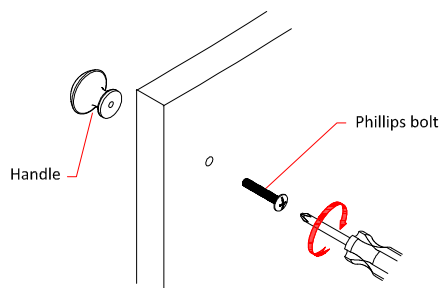

FIGURE 1
- STEP 2:** For packing purpose, the handles were reversed. Re-install the handles to correct side by using the Phillips head bolts provided. Repeat this steps to for other one. Refer to FIGURE 1.